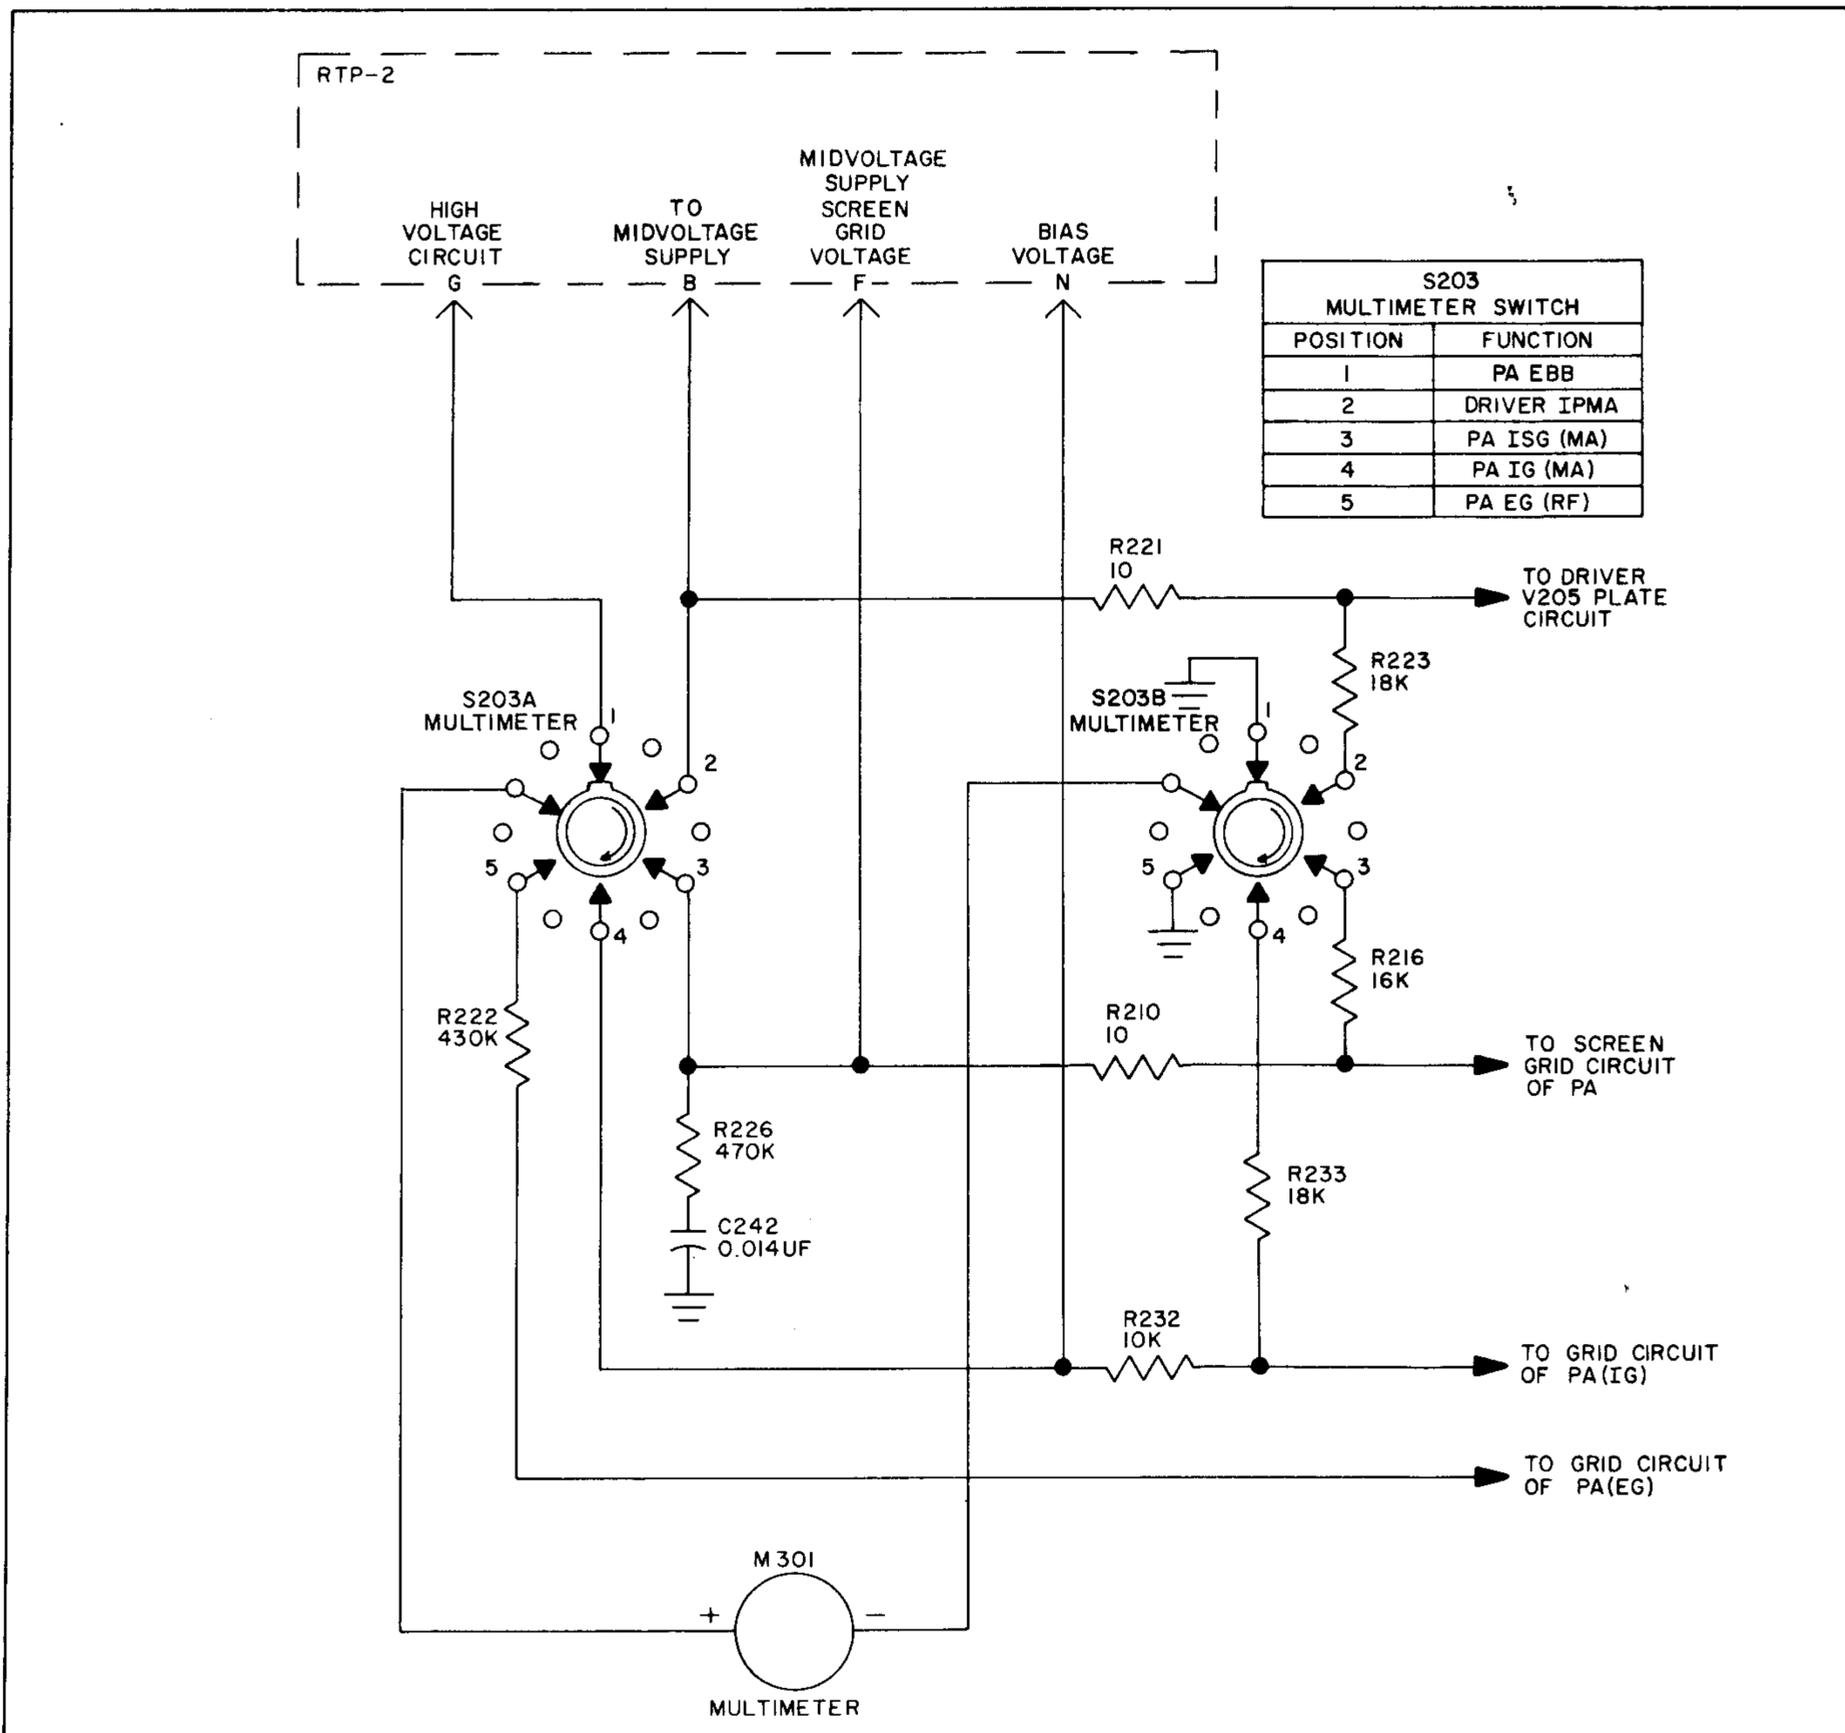

Figure 4-11. Metering Circuit, Simplified Schematic Diagram
(14) **METERING CIRCUIT.** - Meter M301, depending upon the position of switch S203, measures PA Ebb, driver (V205) Ip, PA Isg, and PA Eg rf volts. (See figure 4-11.)